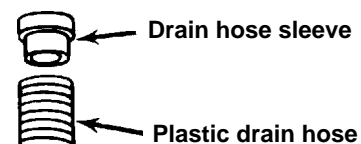

Figure 2
- 2b. Install drain hose sleeve in plastic drain hose. See Figure 2.
NOTE: If using plastic drain hose, install drain hose sleeve in plastic drain hose. See Figure 2. Cut to fit the particular drain installation.